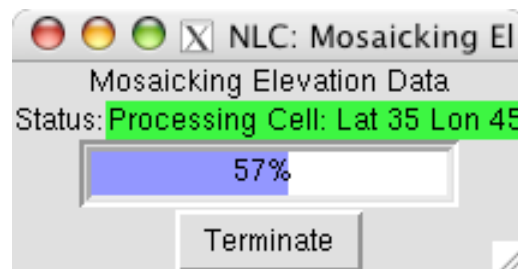

Figure 5-7: Progress Bar for Mosaicking DEM Data.
- Click the "**Start**" button to begin the process. Note that the first action is to automatically generate the required elevation file from the user supplied DEM Directory (Section 5.1.2 and 5.2). This may take a few minutes. A progress box will be displayed (Figure 5-7).